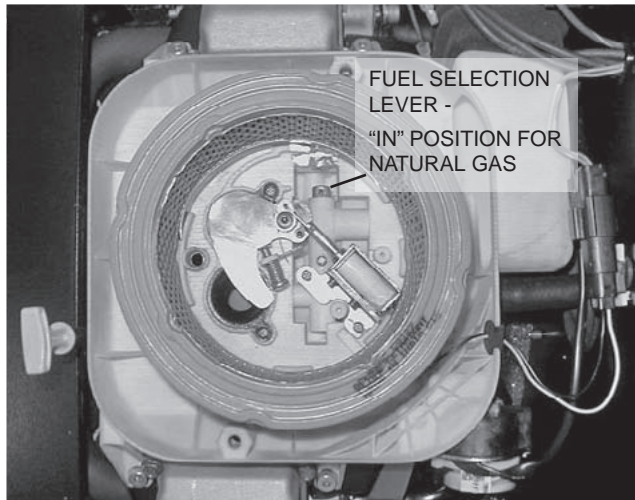

Figure 5. 13/16/18 kW, GT-990
- Slide the selector lever out towards the back of the enclosure (Figures 5 and 6).